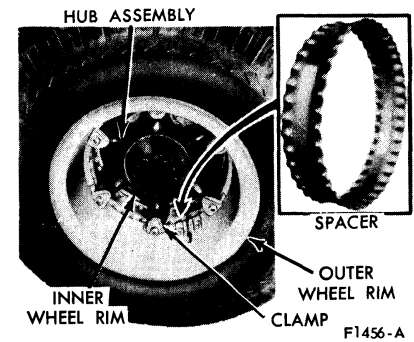

FIG. 5 Three-Piece Rim Installed on Cast Wheel
3. Place the outer rim and tire assembly on the wheel, and install the clamps (Fig. 5).